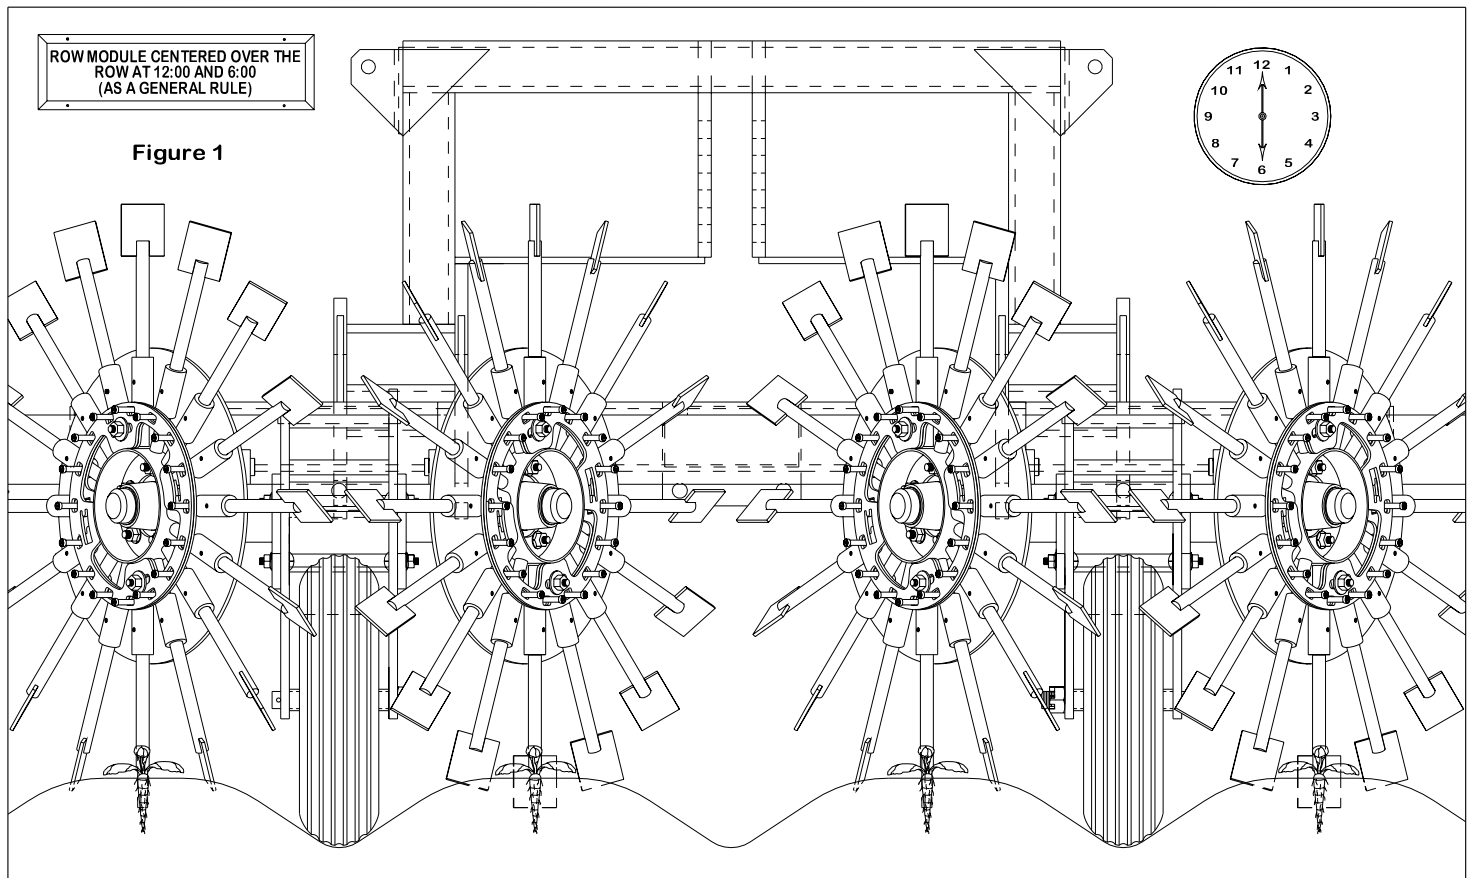

Figure 1
- ▲ The row module should be rotated so that one blade is straight upward at 12:00 o'clock and the opposite blade is straight downward at 6:00 o'clock. With the row module in this position the bottom blade should be centered directly over the row for maximum travel in the row. Figure 1.